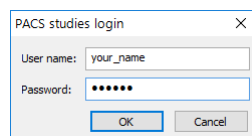

Figure 98 – PACS studies login dialog
1. Click the **Search** button. You may be asked to provide your authorization (the valid user name and password) in the **PACS studies login** dialog (see Figure 98).